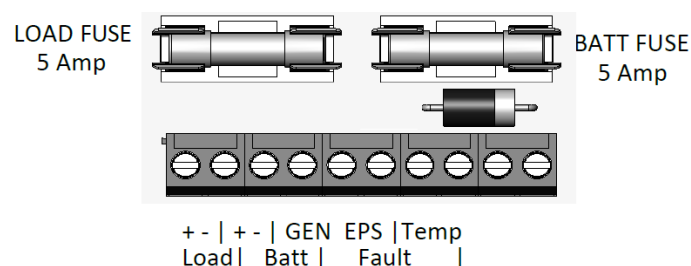

Figure 4 – Terminal labels
- 12) Connect the battery temperature sensor (two white wires) to the PCB terminals Temp Sense. See Figure 4. Wires can be connected either way around.